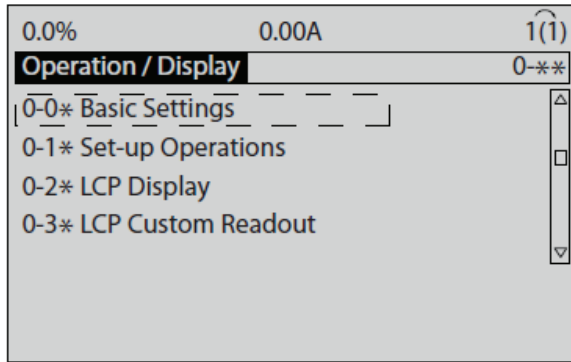

Fig. 25 — Operation/Display
- Press navigation keys to scroll to parameter group 0-0* Basic Settings and press [OK]. See Fig. 25 for Operation/Display illustration.